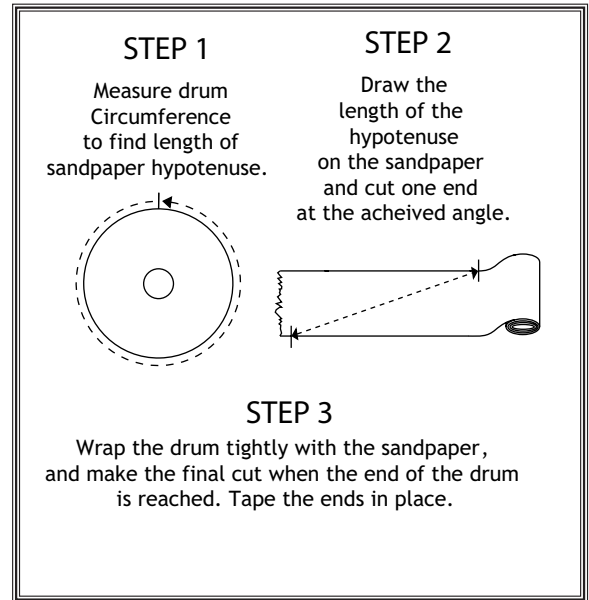
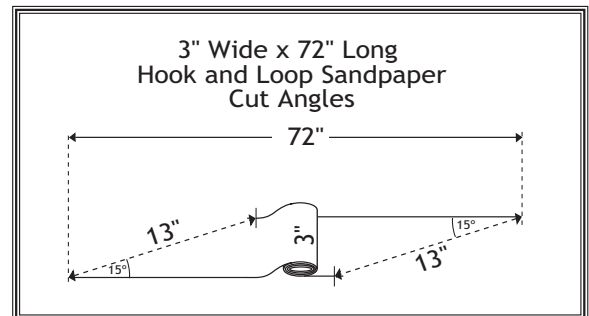

Figure 11. Procedure for finding the angle of cut for wider or narrower sandpaper for any size sanding drum.
Figure 12. 3" wide x 72" long hook-and-loop sandpaper cut at a 15°.
The Model W1740 is designed for 3" wide x 72" long hook-and-loop sandpaper cut at a 15° (see Figure 12). To use other widths of sandpaper, use the formula in Figure 11 to find the angle to cut the sandpaper.
4. Use the old sandpaper as a pattern to cut out the new sandpaper, or use the three steps in Figure 11, to cut a different width sandpaper.